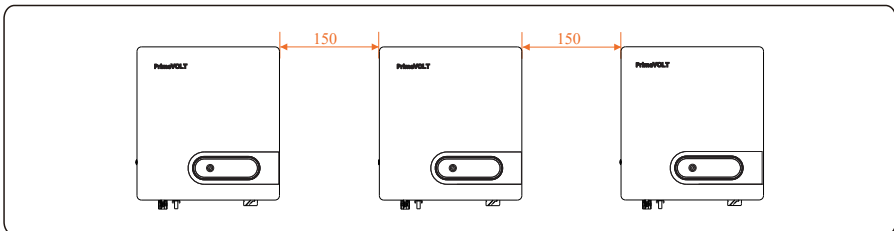
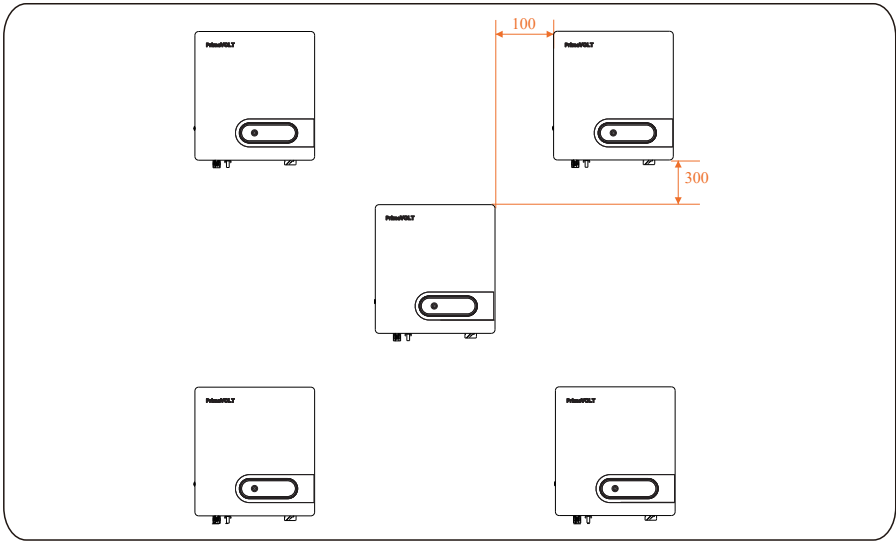
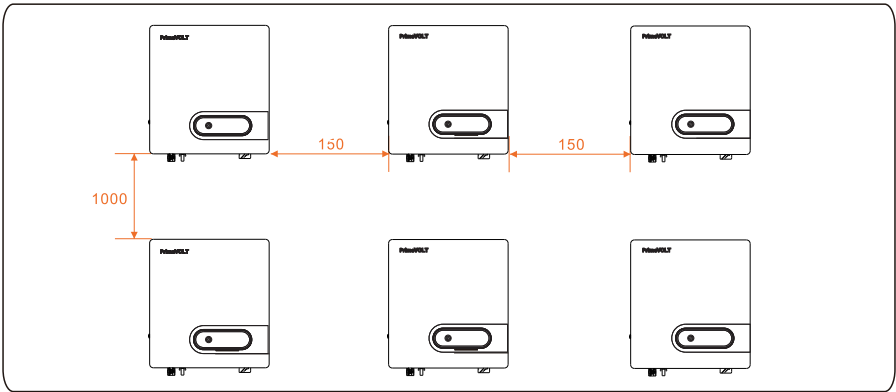

Figure 4.4 Installation along the same line (unit: mm)
Figure 4.5 Installation in triangle mode (unit: mm)
Figure 4.6 Installation in stacked mode (unit: mm)
- When installing multiple inverter, install them along the same line (as shown in Figure 4.4) if sufficient space is available, and install them in triangle mode (as shown in Figure 4.5) or in stacked mode (as shown in Figure 4.6) if no sufficient space is available. The installation modes ensure sufficient space for installation and heat dissipation.